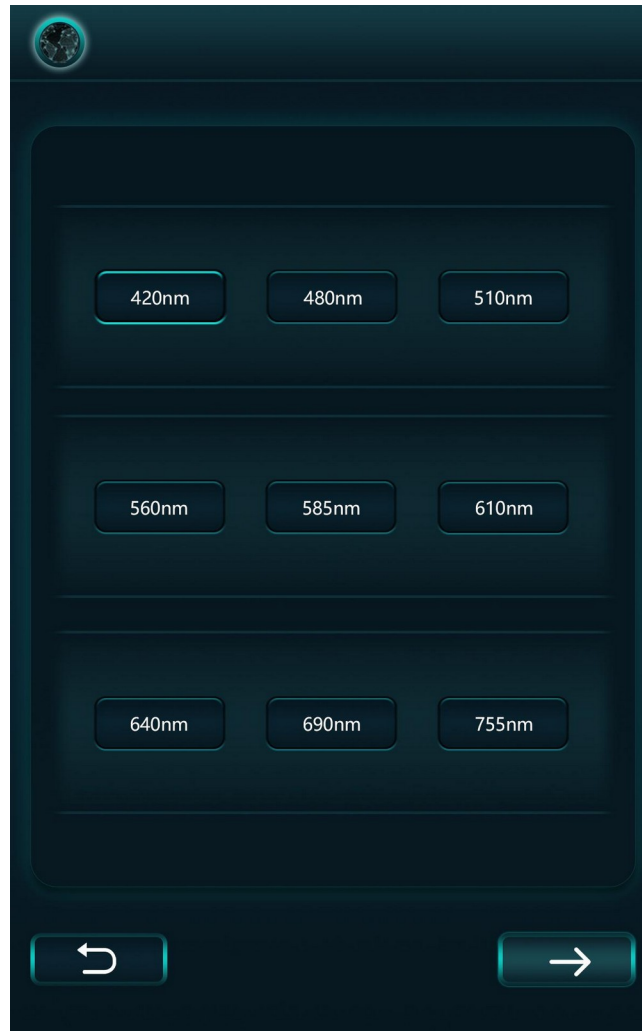
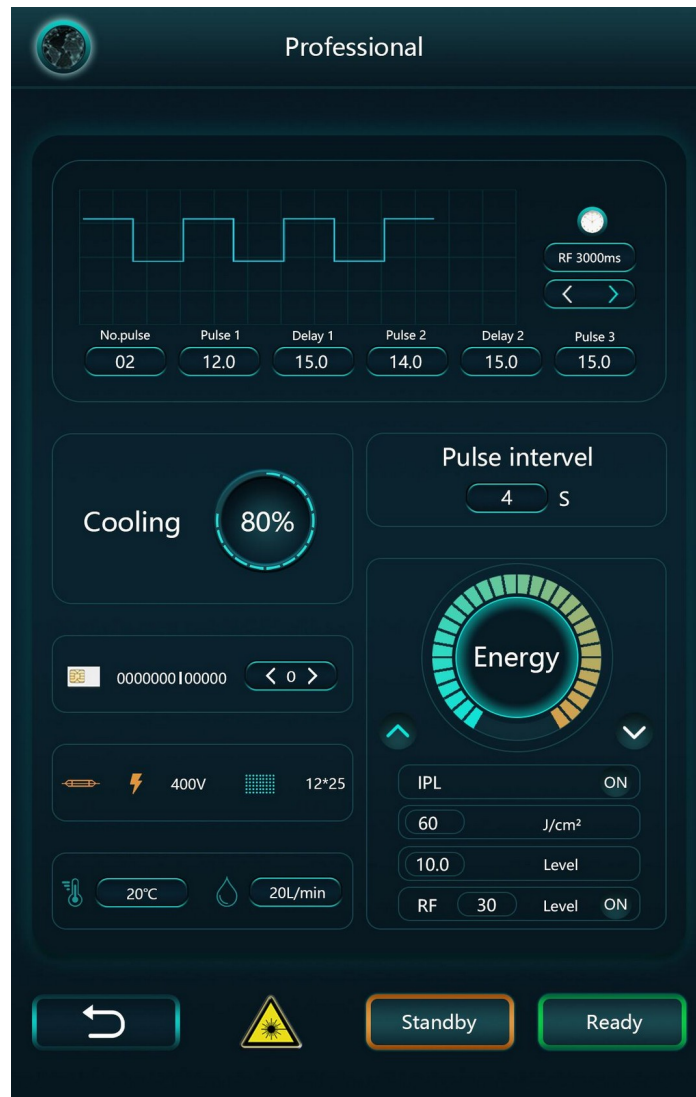

Figure 5.7
Figure 5.8
3) In Professional Mode, you need to enter the filter type requested by the system (Figure 5.7). Professional Mode allows you to manually adjust each parameter (see Figure 5.8).